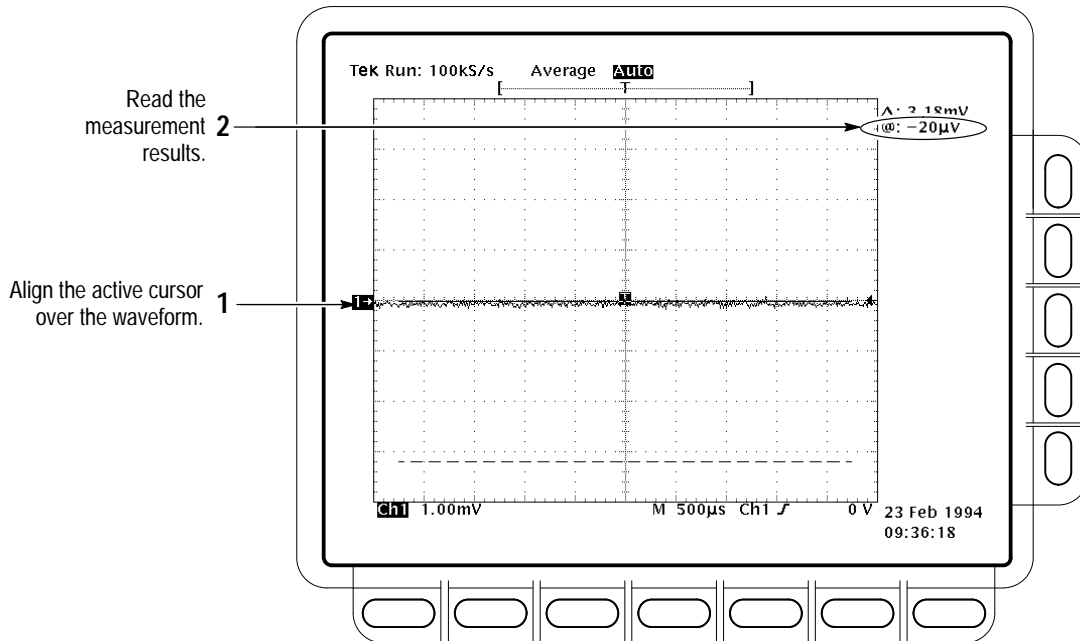

Figure 1–4: Measurement of DC Offset Accuracy at Zero Setting
- d. *Measure the test signal:* Align the active cursor over the waveform by rotating the general purpose knob. Ignore the other cursor. See Figure 1–4.
- e. Read the measurement results at the absolute (@:) cursor readout, not the delta (Δ:) readout on screen. That is, read the offset relative to the ground reference. See Figure 1–4.